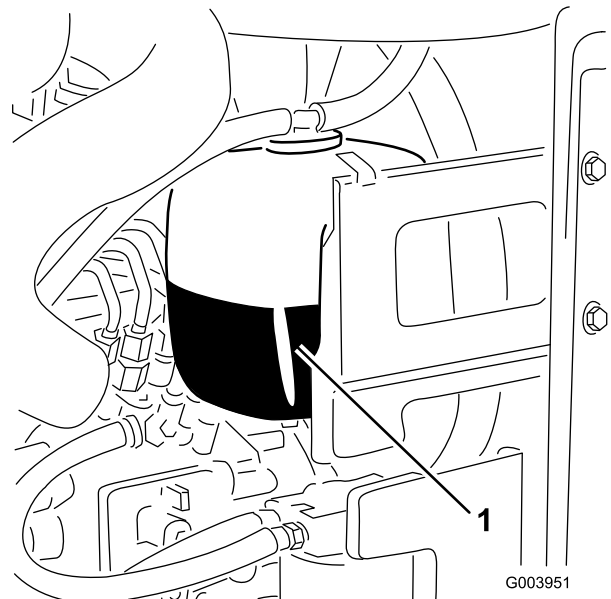

Figure 32
1. Check the level of coolant in the expansion tank (Figure 32).